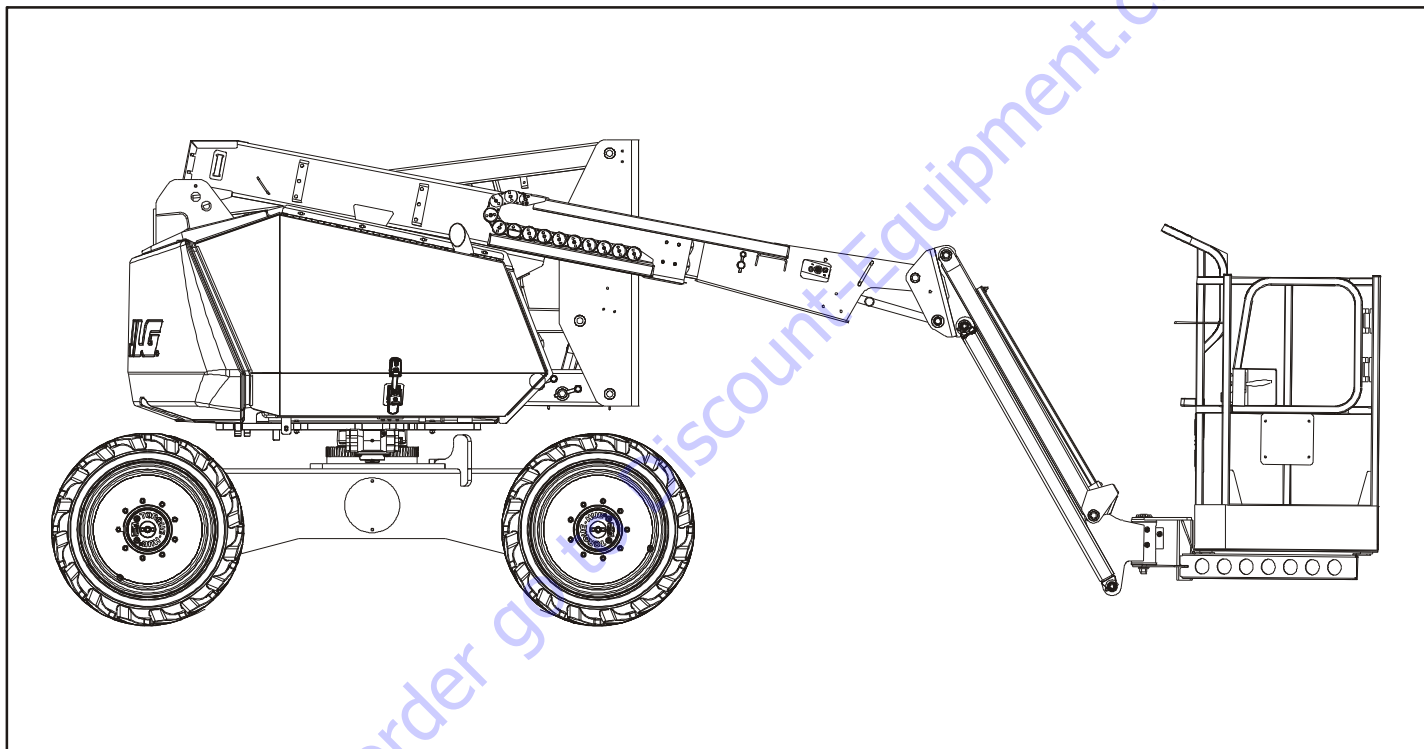
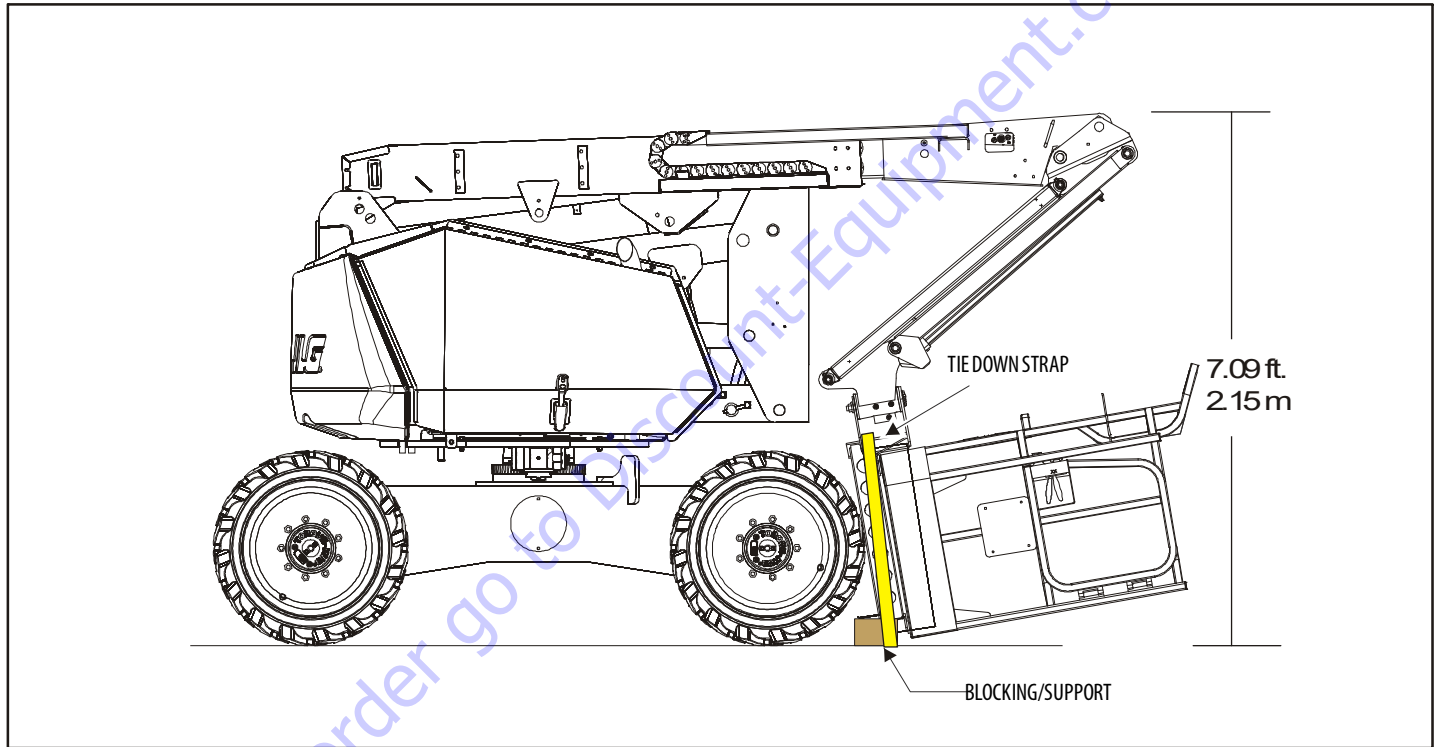

Figure 4-3. Stowed Position
Figure 4-4. Storage Position
(See Figure 4-4.)
1. Place the machine in the stowed position. Refer to Figure 4-3. From the ground control station, raise the main boom at least to the elevation shown in Figure 4-4. The main boom must be raised to prevent the platform basket from hitting the ground during this procedure.
3. Place blocking under the platform support, lower the platform support down onto the blocking by using Main Boom Lift Down, and tie it down as shown in Figure 4-4.